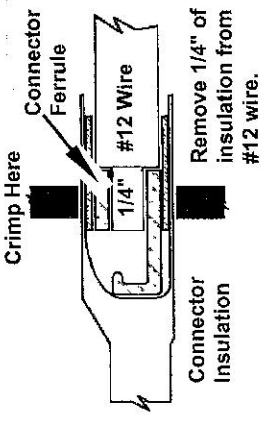
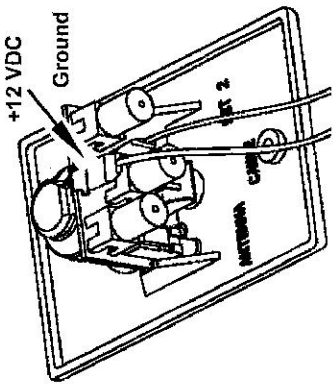
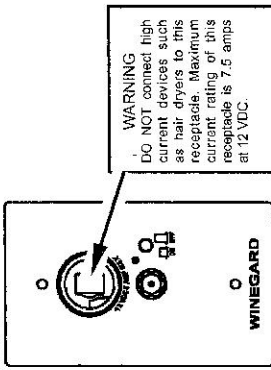

Figure 1
Figure 2
Figure 3
**STEP 3.** Make +12 volt connection to wall plate/power supply Figure 2. Install terminals on wires from +12VDC source as shown in Figure 1. Crimp terminals with Craftsman type 4 crimping tool or equivalent. Push wires onto tabs on terminal board as shown in Figure 2. If in doubt as to the polarity of the wires, connect them temporarily to tabs on circuit board and press switch on front of outlet. If light comes on, polarity is correct. See Figure 3.